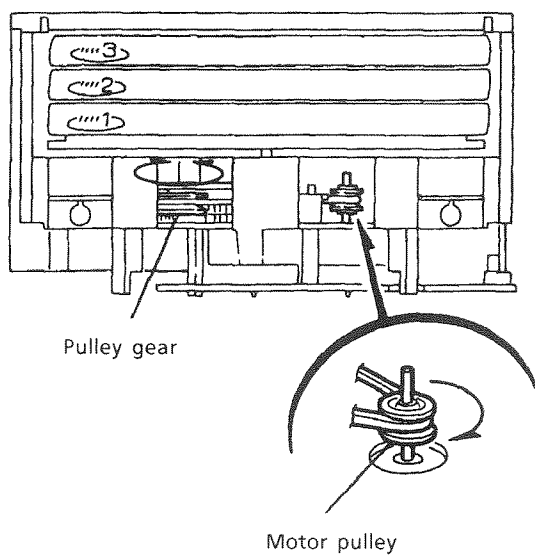
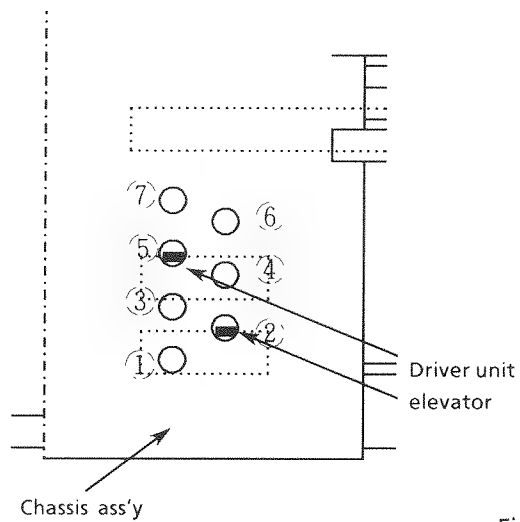

Fig. 34
Fig. 33
[NOTE] Set the elevator in correct position (Fig. 33) by rotating the pulley gear with finger if it is not positioned correctly (Fig. 34.).
12. Rotate the motor pulley clockwise with finger until the lifter unit's stopper is lowered from ⑧ hole located on the CD tray ass'y. (See Fig. 34.)